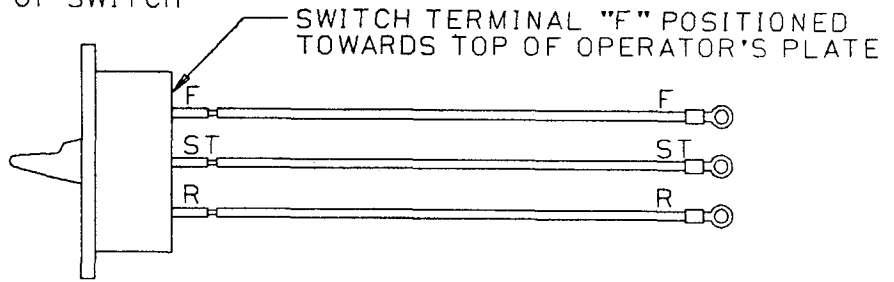

Figure 2.
6. Using a small flat screwdriver, remove the existing switch and wiring by alternately depressing one of the (4) switch mounting tabs while exerting a slight forward pressure to the back of the switch. Discard the switch and wiring.
7. (See Figure 2). Secure the kit furnished 3-position lever switch with wiring, pass the wiring from the front of the operator's plate, through the existing switch hole. Switch terminal with wire tagged F must be positioned toward top of plate. Snap the switch into place in the OCS plate.